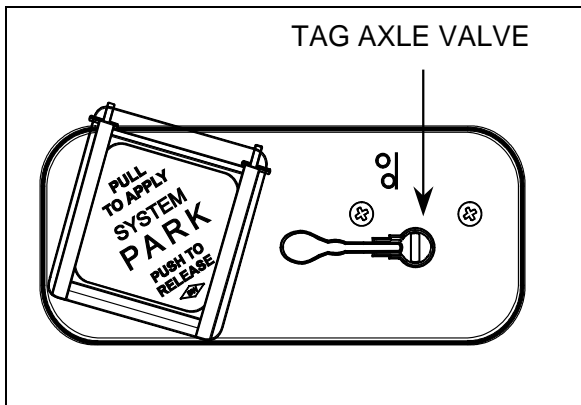

FIGURE 12 : TAG AXLE VALVE ON THE LEFT-HAND CONTROL PANEL
1. For the **front** slide-out only, the tag axle must be unloaded by the manual switch located on the left-hand control panel with the ignition key to the "ON" position (figure 12).
1. For the front slide-out only, the tag axle must be unloaded by the manual switch located on the left-hand control panel with the ignition key to the "ON" position (see figure 12).